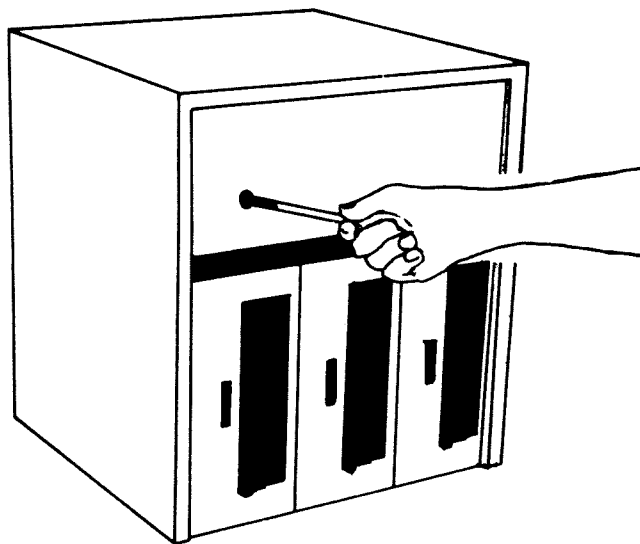

Figure 3-3. Formatting a Diskette
3. Insert the diskette into the drive, paying careful attention to the arrows on the diskette jacket which indicate the proper orientation of the diskette for insertion (Figure 3-3.). If the diskette is not mounted properly, an error will be signalled when the system attempts to read from it. Push the diskette into the drive slot until it catches and holds in the slot. (Once it catches in the slot, do not attempt to remove the diskette manually; this can result in serious damage to both the drive and the diskette. To remove the diskette, close the door until it latches, then depress the release button to eject the diskette.).